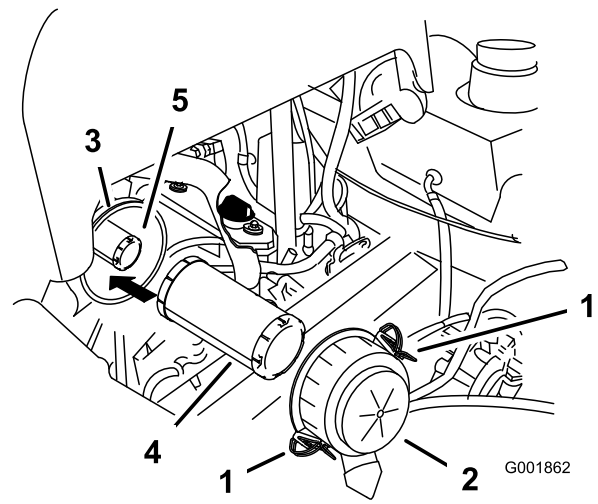

Figure 43
4. Release the latches on the air cleaner and pull the air cleaner cover off of the air cleaner body (Figure 43).
6. Gently slide the primary filter out of the air cleaner body (Figure 43). Avoid knocking the filter into the side of the body.
1. Do not clean the paper filter, replace it (Figure 43).
2. If the safety filter is being replaced, carefully slide it into the filter body (Figure 43).
3. Carefully slide the primary filter over the safety filter (Figure 43). Ensure that it is fully seated by pushing on the outer rim of the filter while installing it.